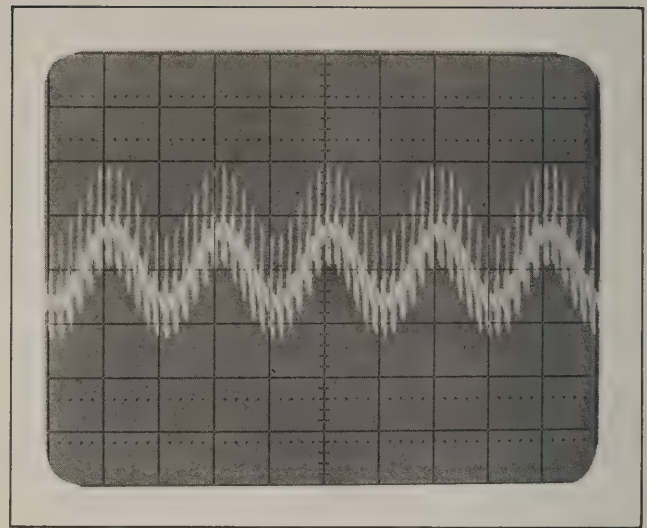

Figure 4-4 Sampling Signal Symmetry Adjustment Waveform
p. Adjust potentiometer R27 on radio frequency printed circuit board A3 for best symmetry of the sampling signal (Figure 4-4).